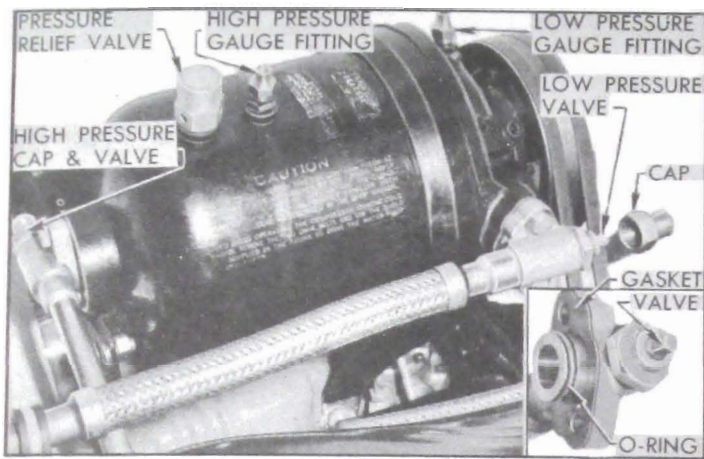

Figure 11-5—Compressor Line Connections
1. Remove protective caps and firmly close both pressure line shut off valves on compressor by turning valves clockwise. See figure 11-5.
In this case remove the cap from the high pressure gauge fitting (fig. 11-5) and depress the valve stem to relieve pressure in compressor.